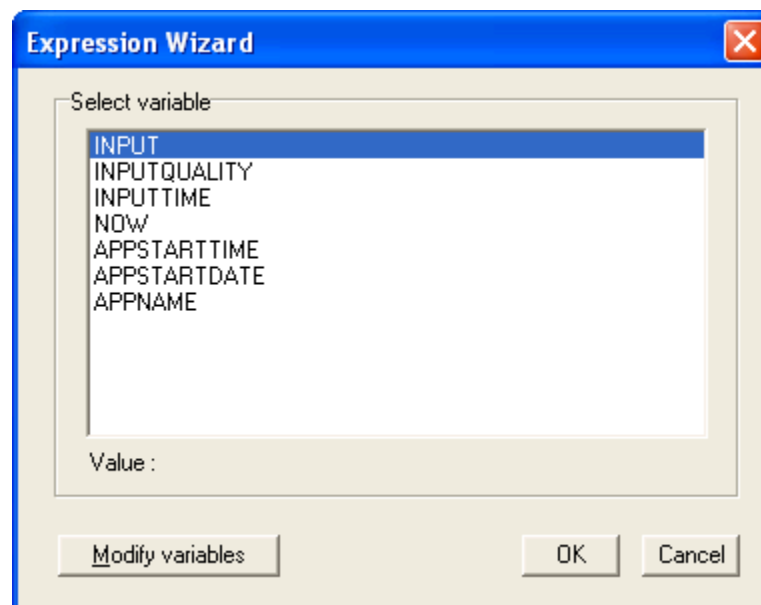

Figure 54 - Select Variable Window
12. Click on the **Variable** button to go to the **Select variable** (Figure 54) window. After selecting the required variable, click on the **OK** button to close the **Select variable** window and return to the **Expression Wizard**.